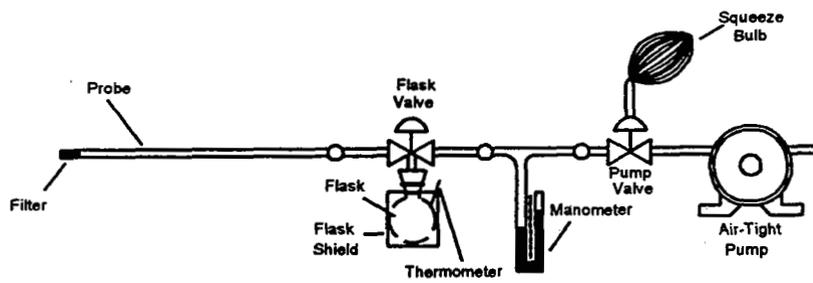

Figure F7-1. Sampling Train, Flask Valve, and Flask.
1. Assemble the sampling train as shown in Figure F7-1, and place the probe at the sampling point.